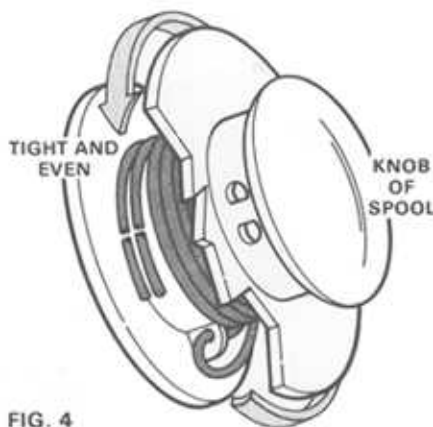

FIG. 4
2. Wind both ends of line at same time; A. Wind counterclockwise as shown (Fig. 4) in direction of arrow marked cc on edge of spool.